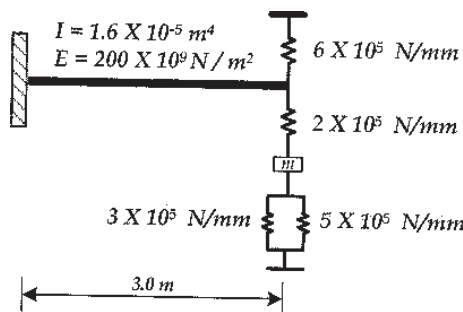

Fig. 1
- Q4)** a) Determine the natural frequency for the system shown in Fig. 1 [8]